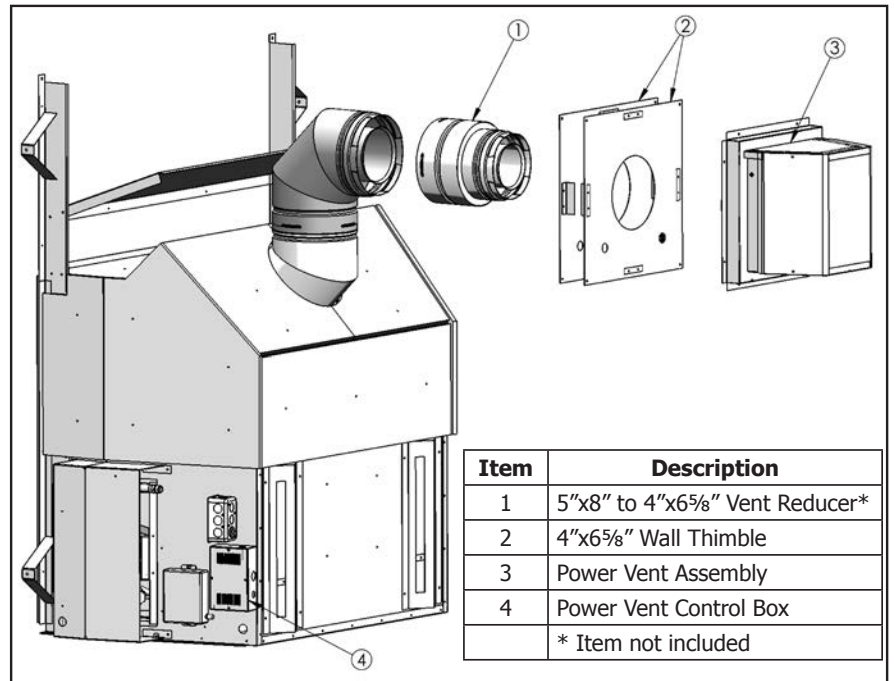

Figure 1: Power Vent Kit's Parts Diagram.
2. Reduce the venting size from 5" x 8" to 4" x 6" with a vent reducer, see Figure 1.